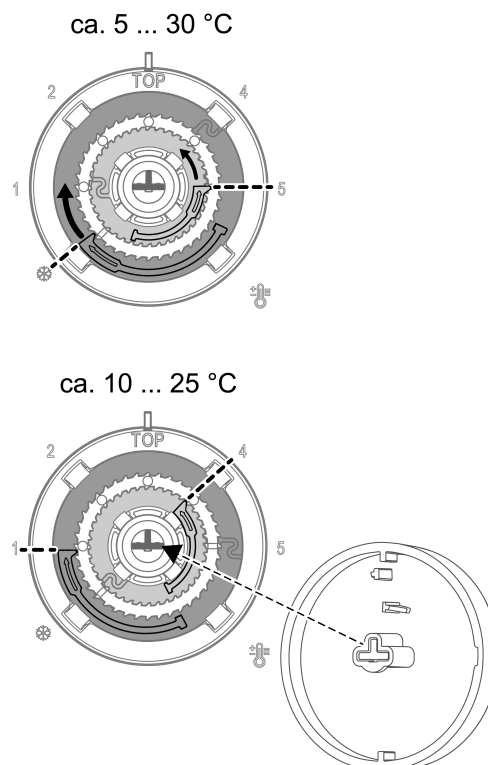

Figure 4: Setting the temperature limit (before/after)
- Pull the control knob off the central plate so that the adjustment rings are visible (Figure 4).
- Replace the control knob, observing the coding (Fig. 4, bottom) of the control knob and rotary axle.